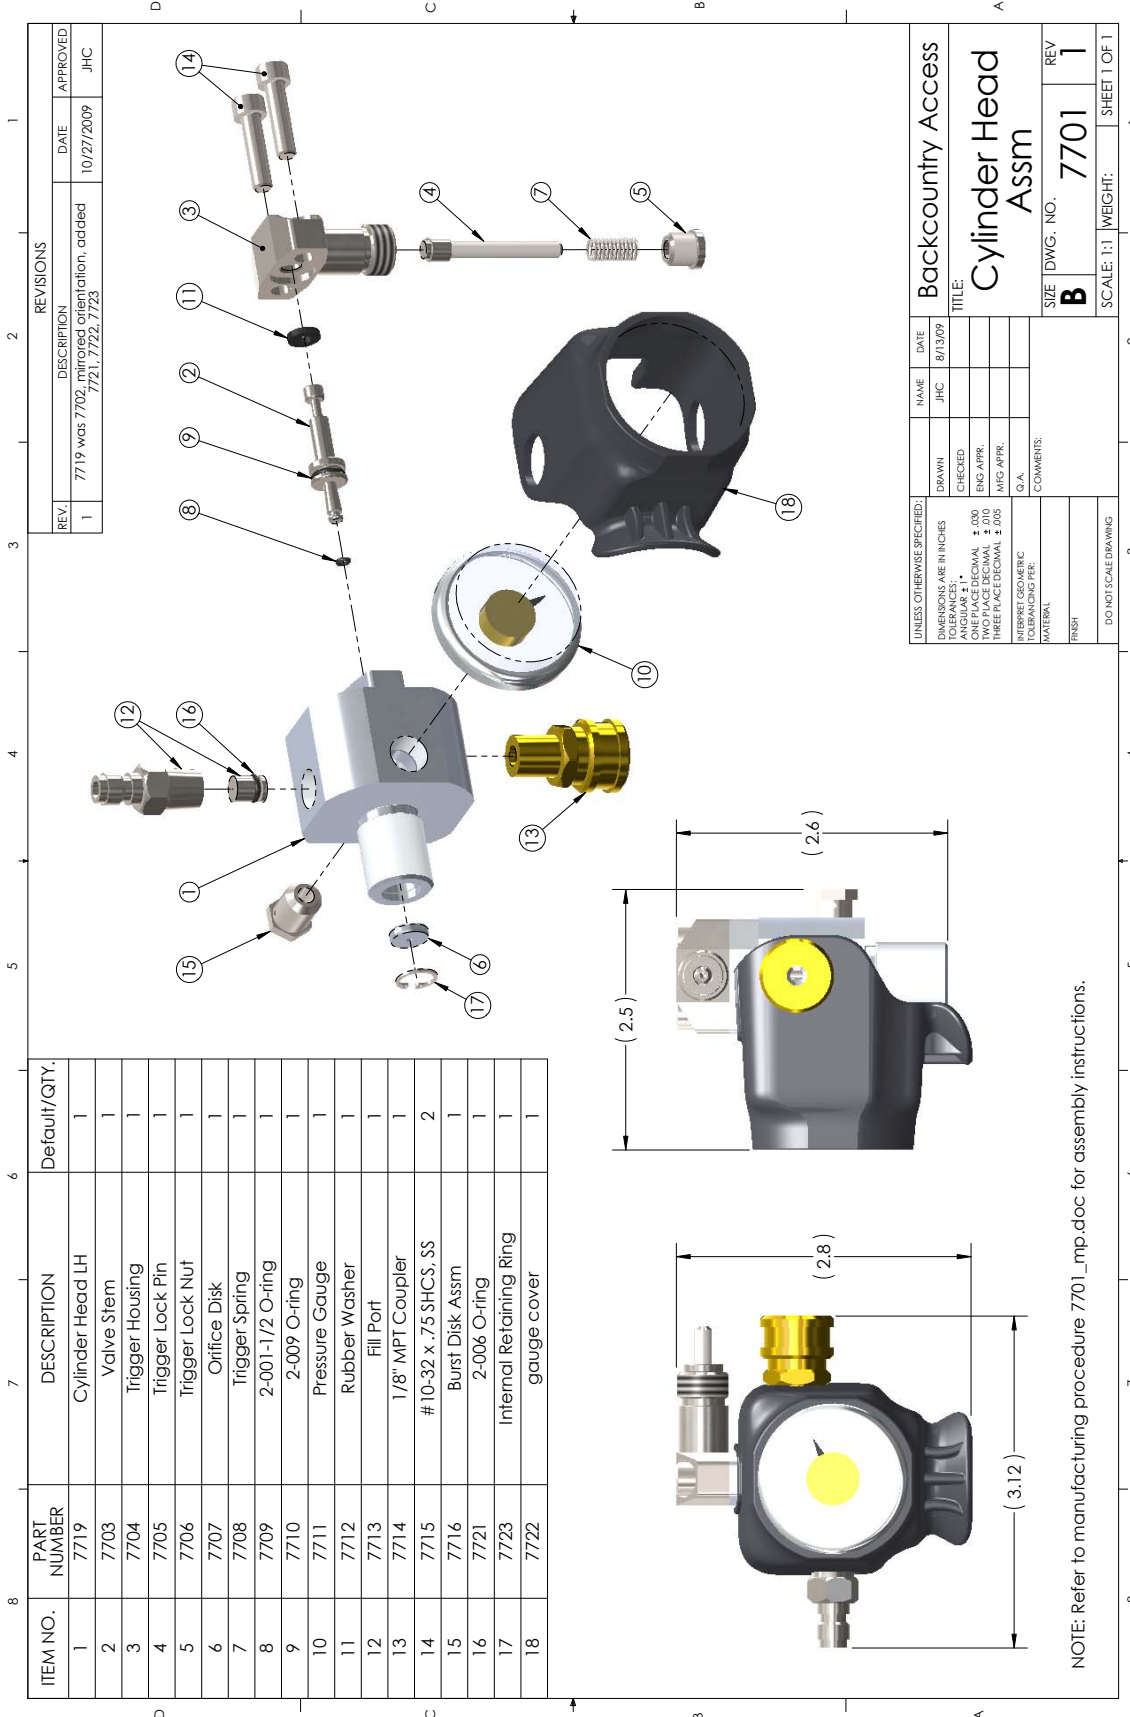

Figure 2, the arrow shows one possible location for BCA 7718 o-ring.
5. Remove the smallest o-ring on the Valve Stem. It will either be located in the o-ring groove or at the end of the tapered portion of the stem, show below in figure 2. It is recommended that the o-ring be removed with plastic tweezers or any other appropriate non metallic tool. Avoid scratching the surface of the Valve Stem when removing.